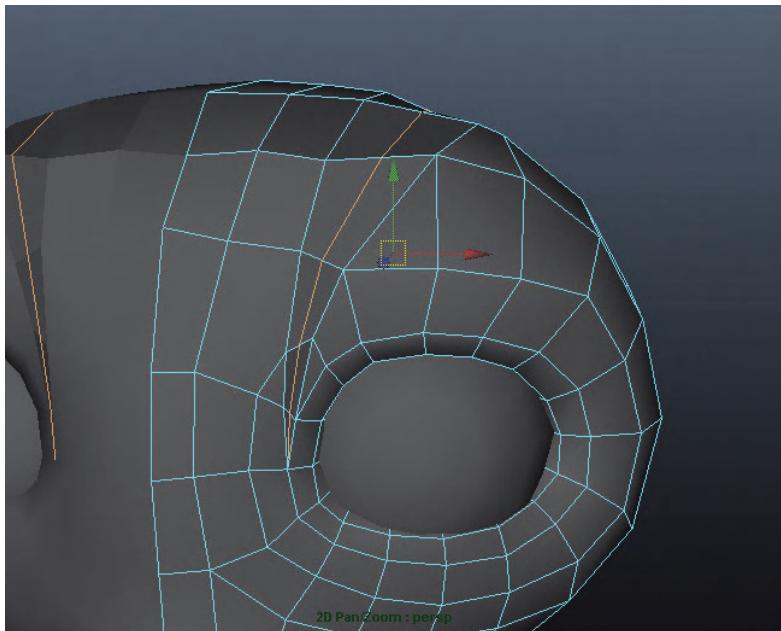

FIG. 4.81 Creating the head ridge.
Step 100: Add head ridges. Do this by arranging the topology needed across the top of the head (Fig. 4.81) and this time by simply moving an edge up to create the ridge rather than extruding.